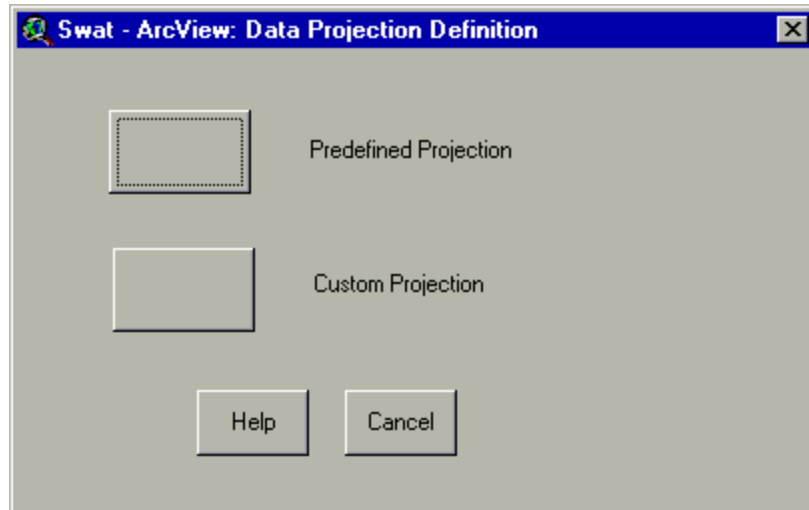

Figure 15.15
10. The interface will activate the map projection prompt box (Figure 15.15).